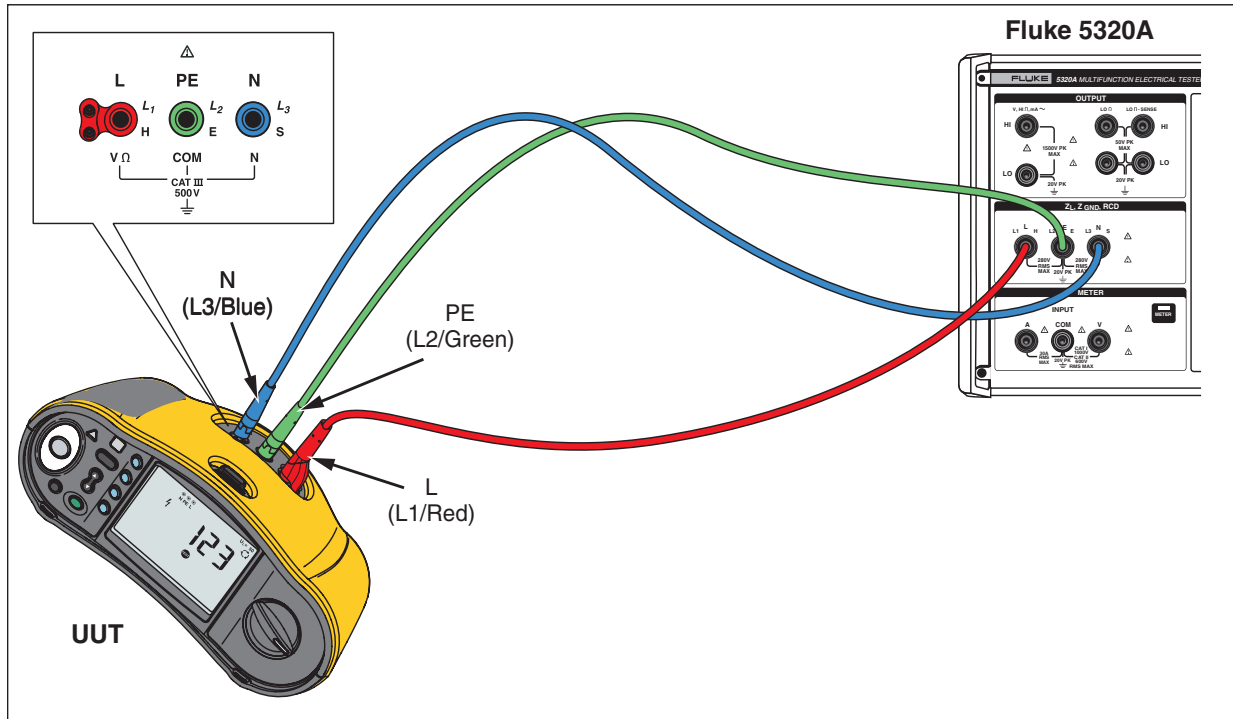

Figure 8. Loop Z_1 Hi Current Line Impedance and RCD Tests
1. Connect the test leads to the Tester and Calibrator. See Figure 8.
1. Connect L, PE, and N from the Tester to the Calibrator as shown in Figure 8.